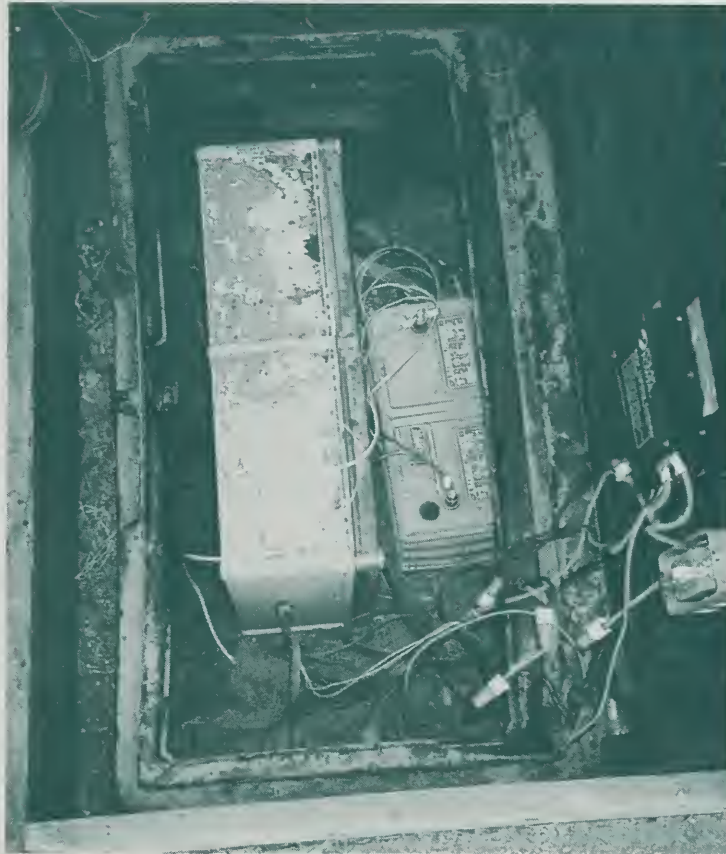

Figure 5—Storing batteries in the ground isn't recommended...
- Battery boxes stored in the ground have problems with flooding, rodents (very serious issue with hantavirus), and are dangerous for even routine battery maintenance (Figures 5 and 6). To check specific gravity or electrolyte levels you must hunch over a battery pack with your eyes and head right where hydrogen gas would escape and explode if ignited, where sulfuric acid might splash... and it's just plain not good for your back to hunch over routinely to check your system.